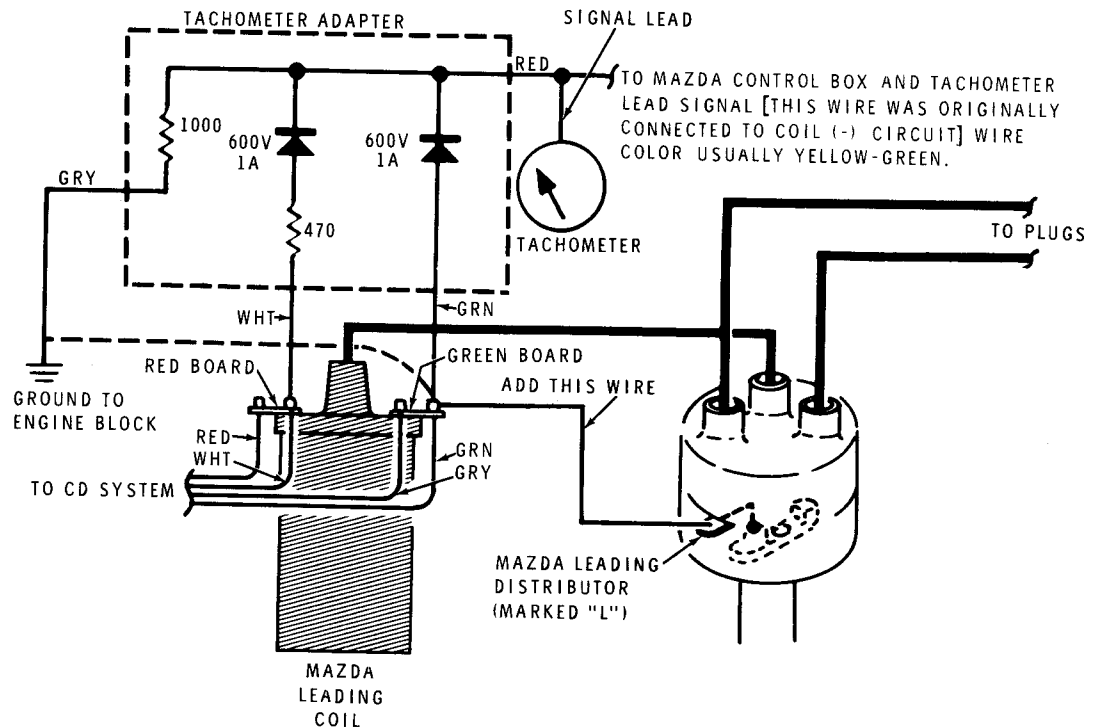

Figure 11
The tachometer adapter circuit shown in Figure 11 is required for operation of the Mazda Tachometer with the Heathkit CD System. This adapter (Model TA-610) is available from Delta Products*.
Refer to Figure 11 and make the wire changes and connections as follows:
6. Connect the remaining gray, green, and white leads of the adapter circuit as shown in Figure 11.
NOTE: If the tachometer reading is erratic, remove the gray wire of the adapter circuit from ground and connect it to the green terminal board (green wire connecting point) on the negative (-) terminal of the leading ignition coil. See the dotted line in Figure 11.